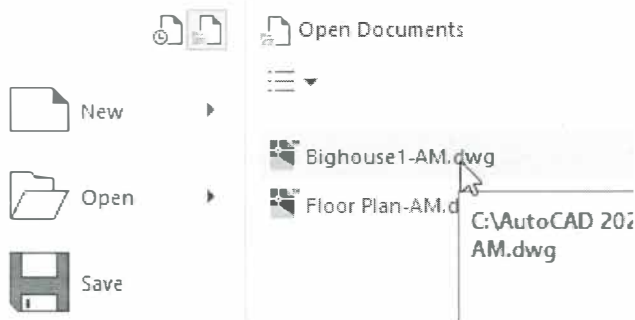

Figure 1–46
5. Click, hold, and drag **Floor Plan-AM.dwg** out of the *File Tabs* bar and place it adjacent to the **Bighouse1-AM.dwg** as shown in Figure 1–47.